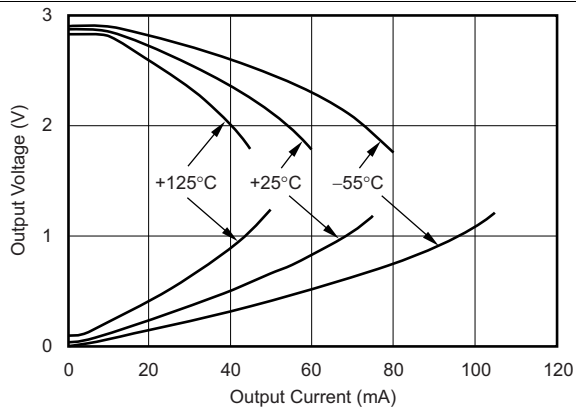
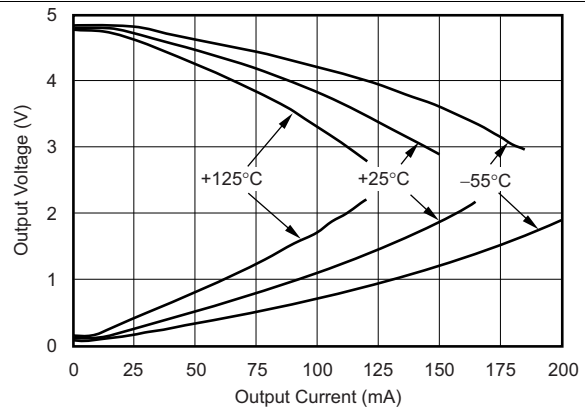
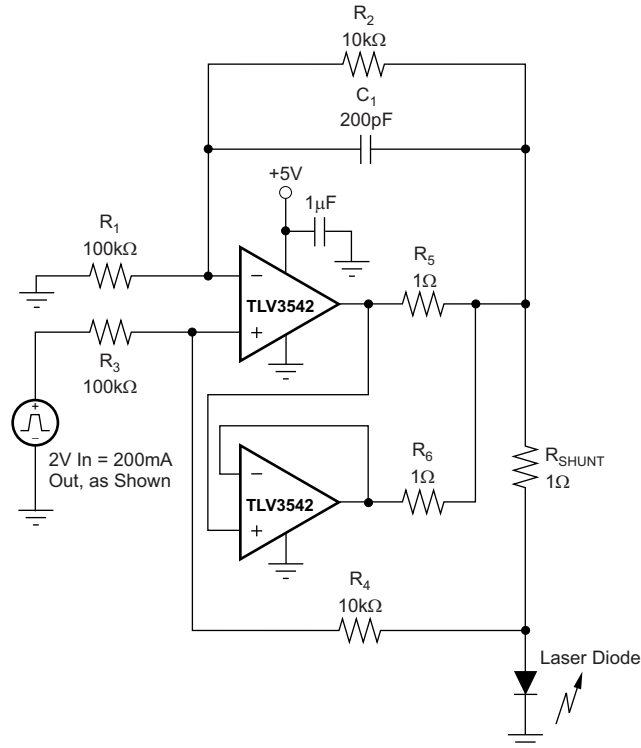

Figure 14. Output Voltage Swing vs Output Current for  $V_S = 3\text{ V}$
Figure 15. Output Voltage Swing vs Output Current for  $V_S = 5\text{ V}$
Figure 22. Parallel Operation
(1) See typical characteristic curves, *Output Voltage Swing vs Output Current* (Figure 14 and Figure 15).
(2) Specified by design.
(3) Operating in this temperature range will not damage the part. However, degraded performance may be observed.
A class AB output stage with common-source transistors is used to achieve rail-to-rail output. For high-impedance loads ( $> 200 \Omega$ ), the output voltage swing is typically 100 mV from the supply rails. With 10- $\Omega$  loads, a useful output swing can be achieved while maintaining high open-loop gain. See the typical characteristic curves, *Output Voltage Swing vs Output Current* (Figure 14 and Figure 15).
The TLV354x output stage can supply a continuous output current of  $\pm 100$  mA and yet provide approximately 2.7 V of output swing on a 5-V supply, as shown in Figure 21. For maximum reliability, it is not recommended to run a continuous DC current in excess of  $\pm 100$  mA. Refer to the typical characteristic curves, *Output Voltage Swing vs Output Current* (Figure 14 and Figure 15). For supplying continuous output currents greater than  $\pm 100$  mA, the TLV354x may be operated in parallel, as shown in Figure 22.